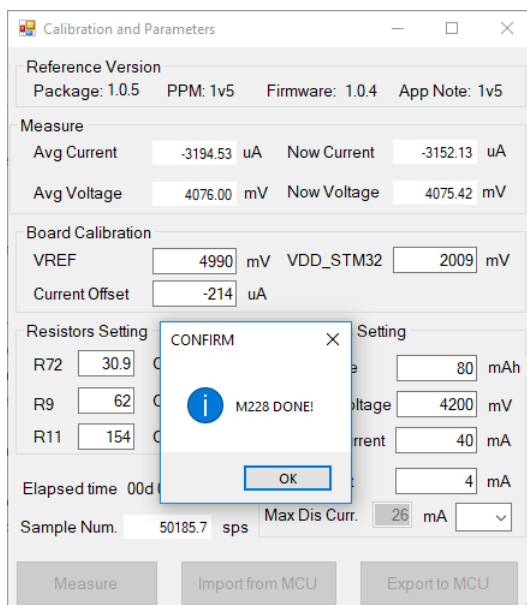

Figure 17: Exported Values to the MCU
7. Follow Section 7.4.2 or Export the value to the MCU by clicking **Export to MCU** button, see Figure 17.
5. Follow Section 7.4.3 or Export the value to the MCU by clicking **Export to MCU** button, see Figure 17.
4. Export the value to the MCU by clicking **Export to MCU** button, see Figure 17.
After all settings are complete, the values must be exported to the MCU by clicking **Export to MCU** button. A **Done** popup message is shown once the export is complete, see Figure 17.